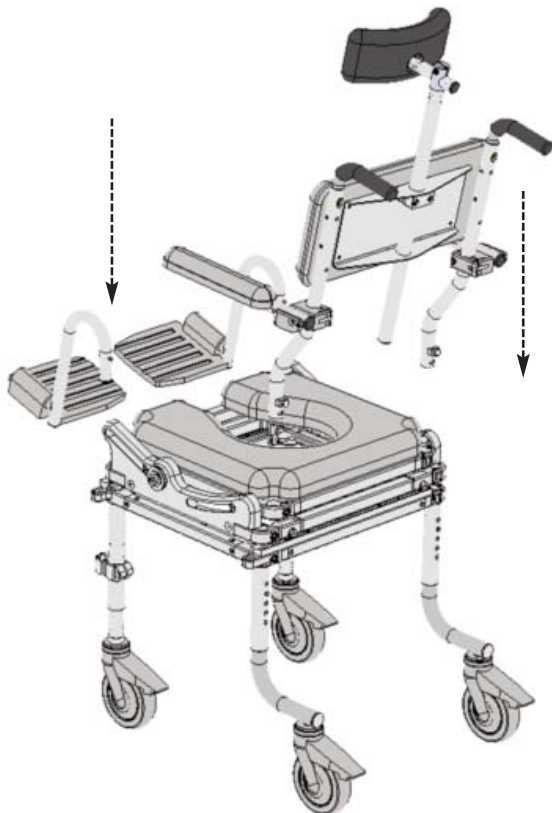

Figure 2
**F** Turn the chair right side up and install the backrest assembly. Slide the two backposts into the back of the seat frame and tighten the two socket head cap screws using yellow T-handle Allen wrench (Refer to Figure 2).